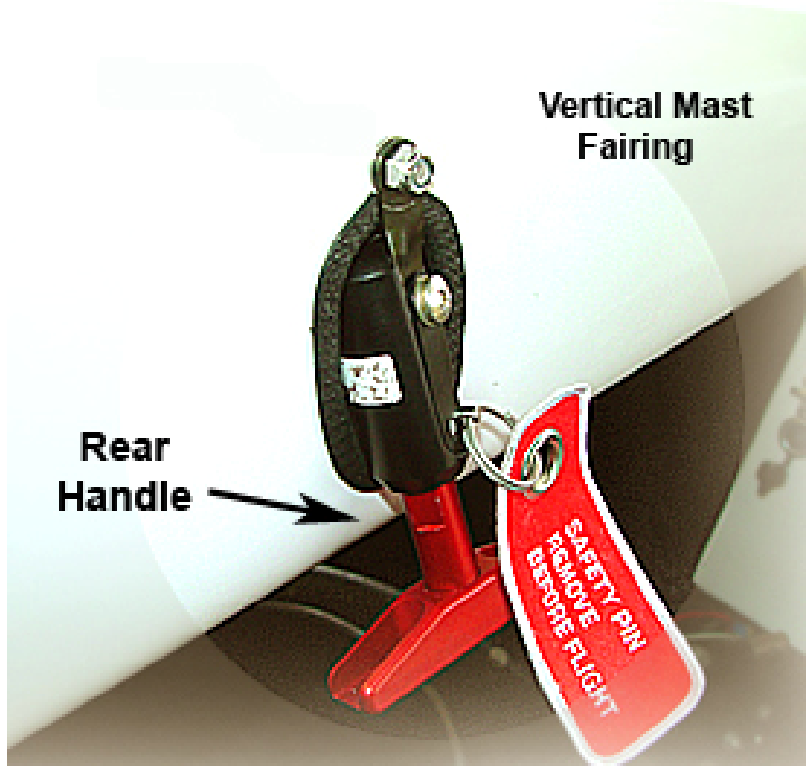

Figure 4-21
- 4.17 Install the Rear Activation Handle, using the 5/8" screw (Item 31), two washers (Item 23), and a lock nut (Item 24), as shown in Figure 4-21.